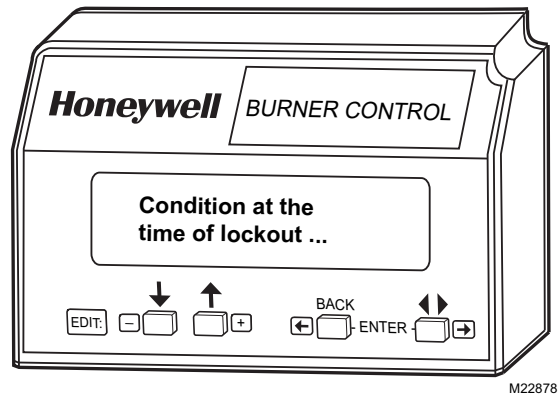

Fig. 17. Lockout message, State 2.
2. State 2 (Fig. 17). Display of the second state message lasts two seconds.